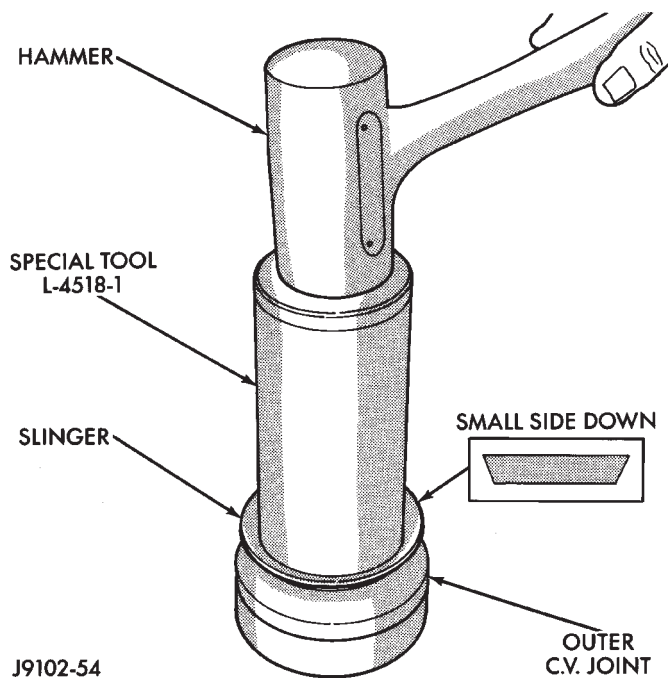

Fig. 23 Slinger Installation
(7) Apply a small amount of lubricant to inner diameter of slinger. Place slinger squarely on the outer C/V joint. Use installer tool L-4518-1 from tool set L-4518 and hammer slinger onto joint until it seats (Fig. 23).